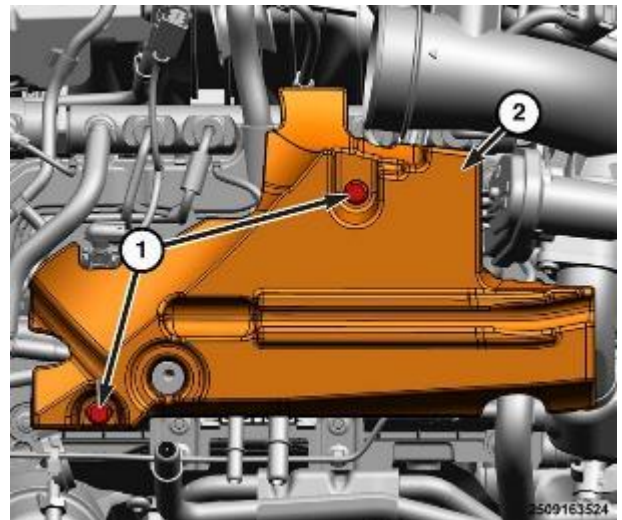

Figure 108– Fuel Rail Cover
- 28. Remove the left fuel rail cover bolts (1) and the left fuel rail cover (2) (Figure 108).